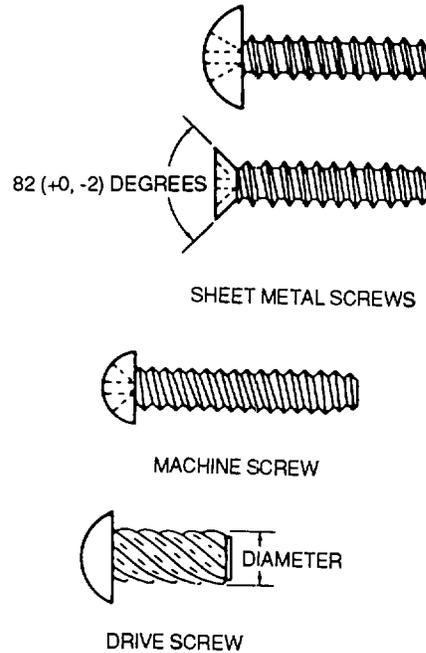

Figure 2-40. Self Tapping Screws
(1) *Machine screws*. Use AN504 machine self-tapping screws, as shown in figure 2-40, to attach removable parts such as nameplates and other similar items to castings. These screws tap their own mating threads when driven into untapped drilled or punched holes slightly smaller than the outside diameter of the screw itself.
(3) *Drive screws.* Drive screws, MS21318, as shown in figure 2-40, are plain head, self-tapping screws used as capscrews in the attachment of nameplates in castings or in sealing drain holes in corrosion-proofing tubular structures. These screws differ from other self-tapping screws in that they are not formed to fit screwdrivers and are not intended to be removed after installation. Drive screws are installed by driving the screw into a drilled hole with a hammer.